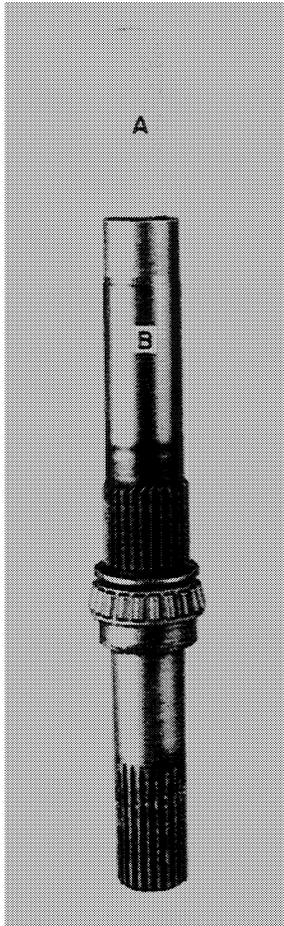

FIGURE 22
1. Pipe, A, Figure 22, is used to push the input shaft out of the left rotor gearbox (push shaft from left to right). Using the pipe will eliminate the possibility of damage to the threaded end of the shaft. Install the pipe, A, Figure 22, on to the input shaft, B, as shown.